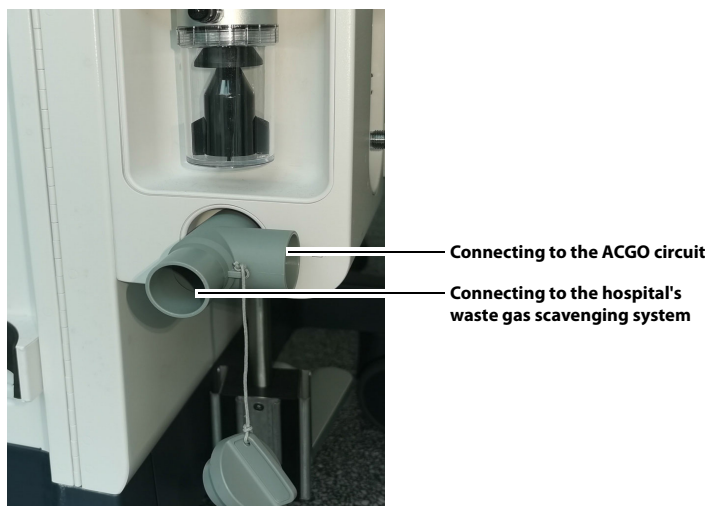
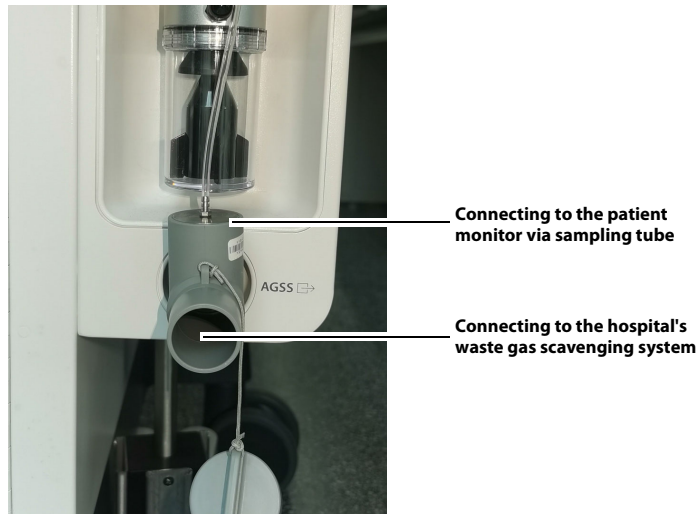

Figure 3-14 Passive AGSS (connecting to the ACGO circuit)
Figure 3-15 Passive AGSS (connecting to the patient monitor)
- When both the patient monitor and ACGO circuit need to scavenge the gas to the AGSS, use two adapters (one adapter as Figure 3-14 and one adapter as Figure 3-15) as shown below.